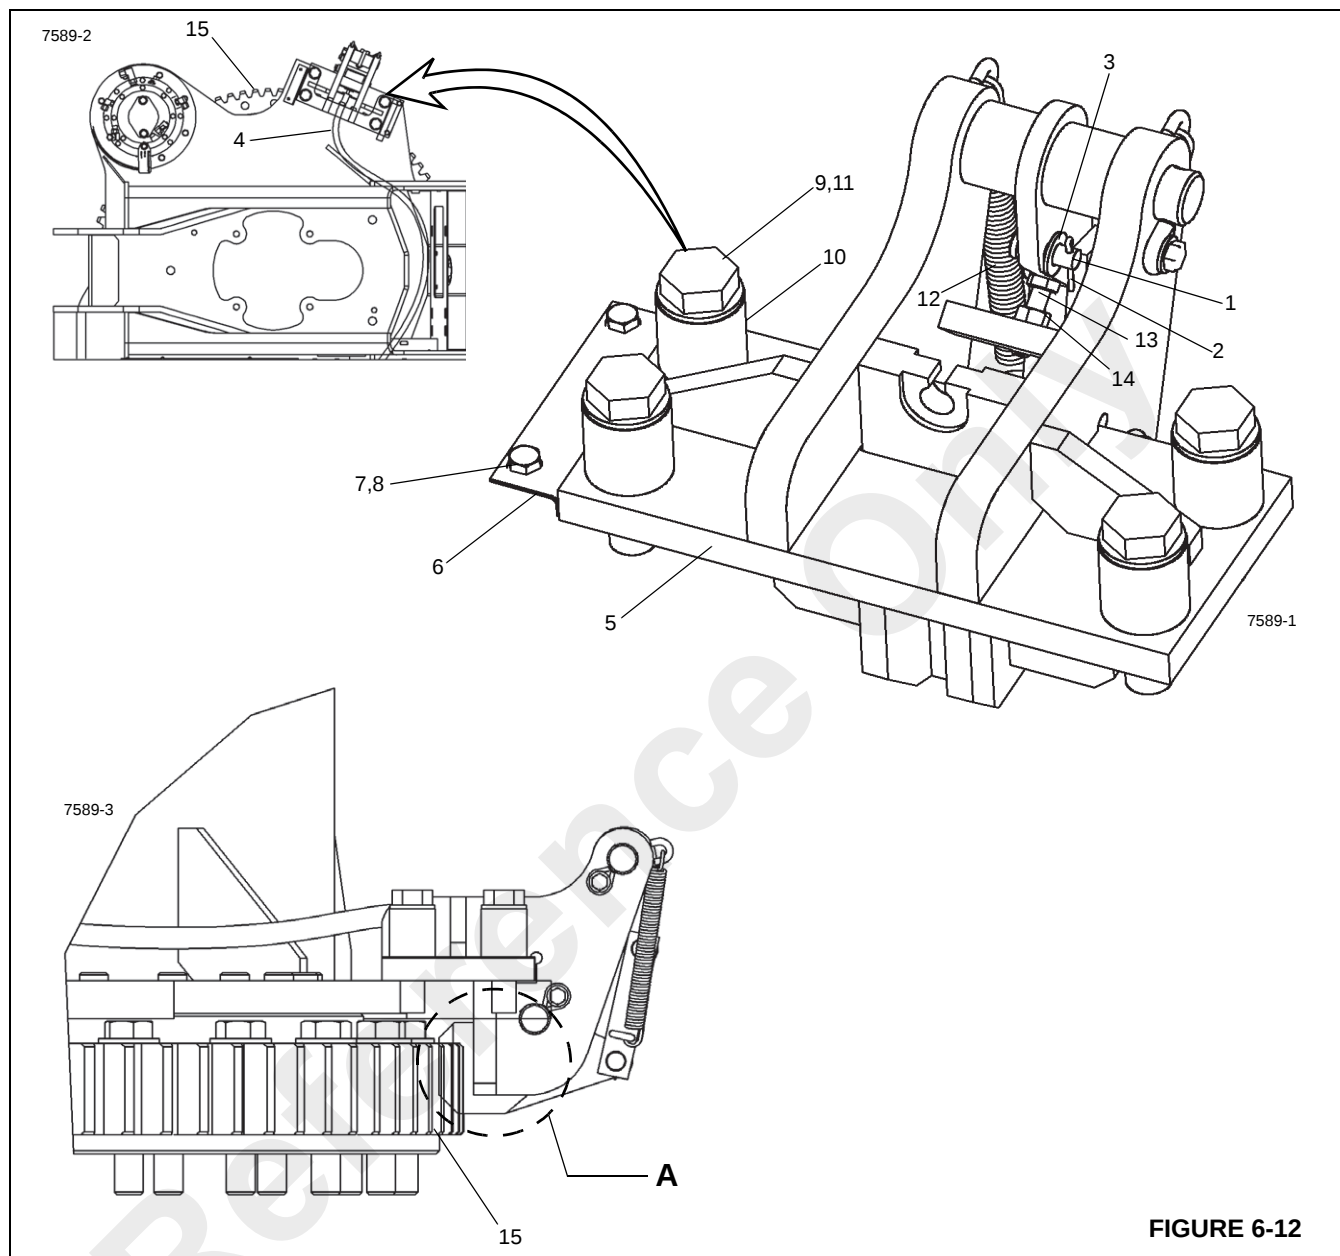

FIGURE 6-12
1. Release the swing lock foot pedal and be sure the lock is disengaged from the turret bearing ring (15, Figure 6-12).
2. Remove the clevis pin (1, Figure 6-12), cotter pin (2) and washer (3) securing the cable (4) to the swing lock (5).
3. Remove shim (6, Figure 6-12) and attaching hardware screws (7) and lockwashers (8).
4. Remove four screws (9, Figure 6-12), bushings (10) and flatwashers (11) and move swing lock (5) from the turret.
5. Remove two springs (12) from the swing lock. Inspection the springs for wear or damage, replace springs as needed.
1. Position the swing lock (5, Figure 6-12) onto the turret and secure with four screws (9, Figure 6-12), bushings (10) and flatwashers (11).
2. Place shim (6, Figure 6-12) on top of swing lock mounting block and secure with screws (7) and lockwashers (8)
Use shim to eliminate all side to side movement between the swing lock (5, Figure 6-12) and the swing lock mounting blocks welded to the turret.
3. Attach the cable (4, Figure 6-12) to the swing lock (5) with clevis pin (1), cotter pin (2) and washer (3).
4. Adjust the cable (4, Figure 6-12) using the following instructions.
- b. View A, Figure 6-12 shows a side view of the swing lock *engaged* with the turret bearing gear teeth (15).
- c. Adjust stop bolt (13, Figure 6-12) until the head of the bolt comes in contact with the link on swing assembly. Tighten hex nut (14).
- d. Adjust the cable so that the cable pulls the link rightly against the stop bolt (13) when the foot pedal control is fully engaged.
- e. Attach the springs (12) and operate the foot pedal control lever several times to verify that the lock engages and disengages from the bearing ring gear (15) properly. Adjust the cable as required.
5. Tighten the swing lock screws (9, Figure 6-12); refer to "Fasteners And Torque Values" on page 7 for the torque value for the screws.